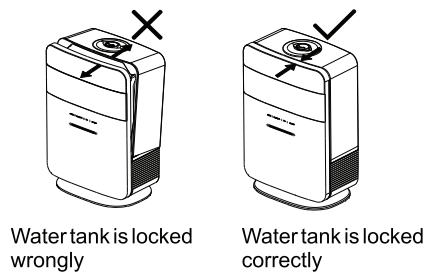

fig. 1
- 3) Twist off the cover of water tank, add proper quantity water into water tank, and screw up the water tank cover. Then stably put water tank on the rear case and make sure water tank is locked correctly (shown as fig. 1).